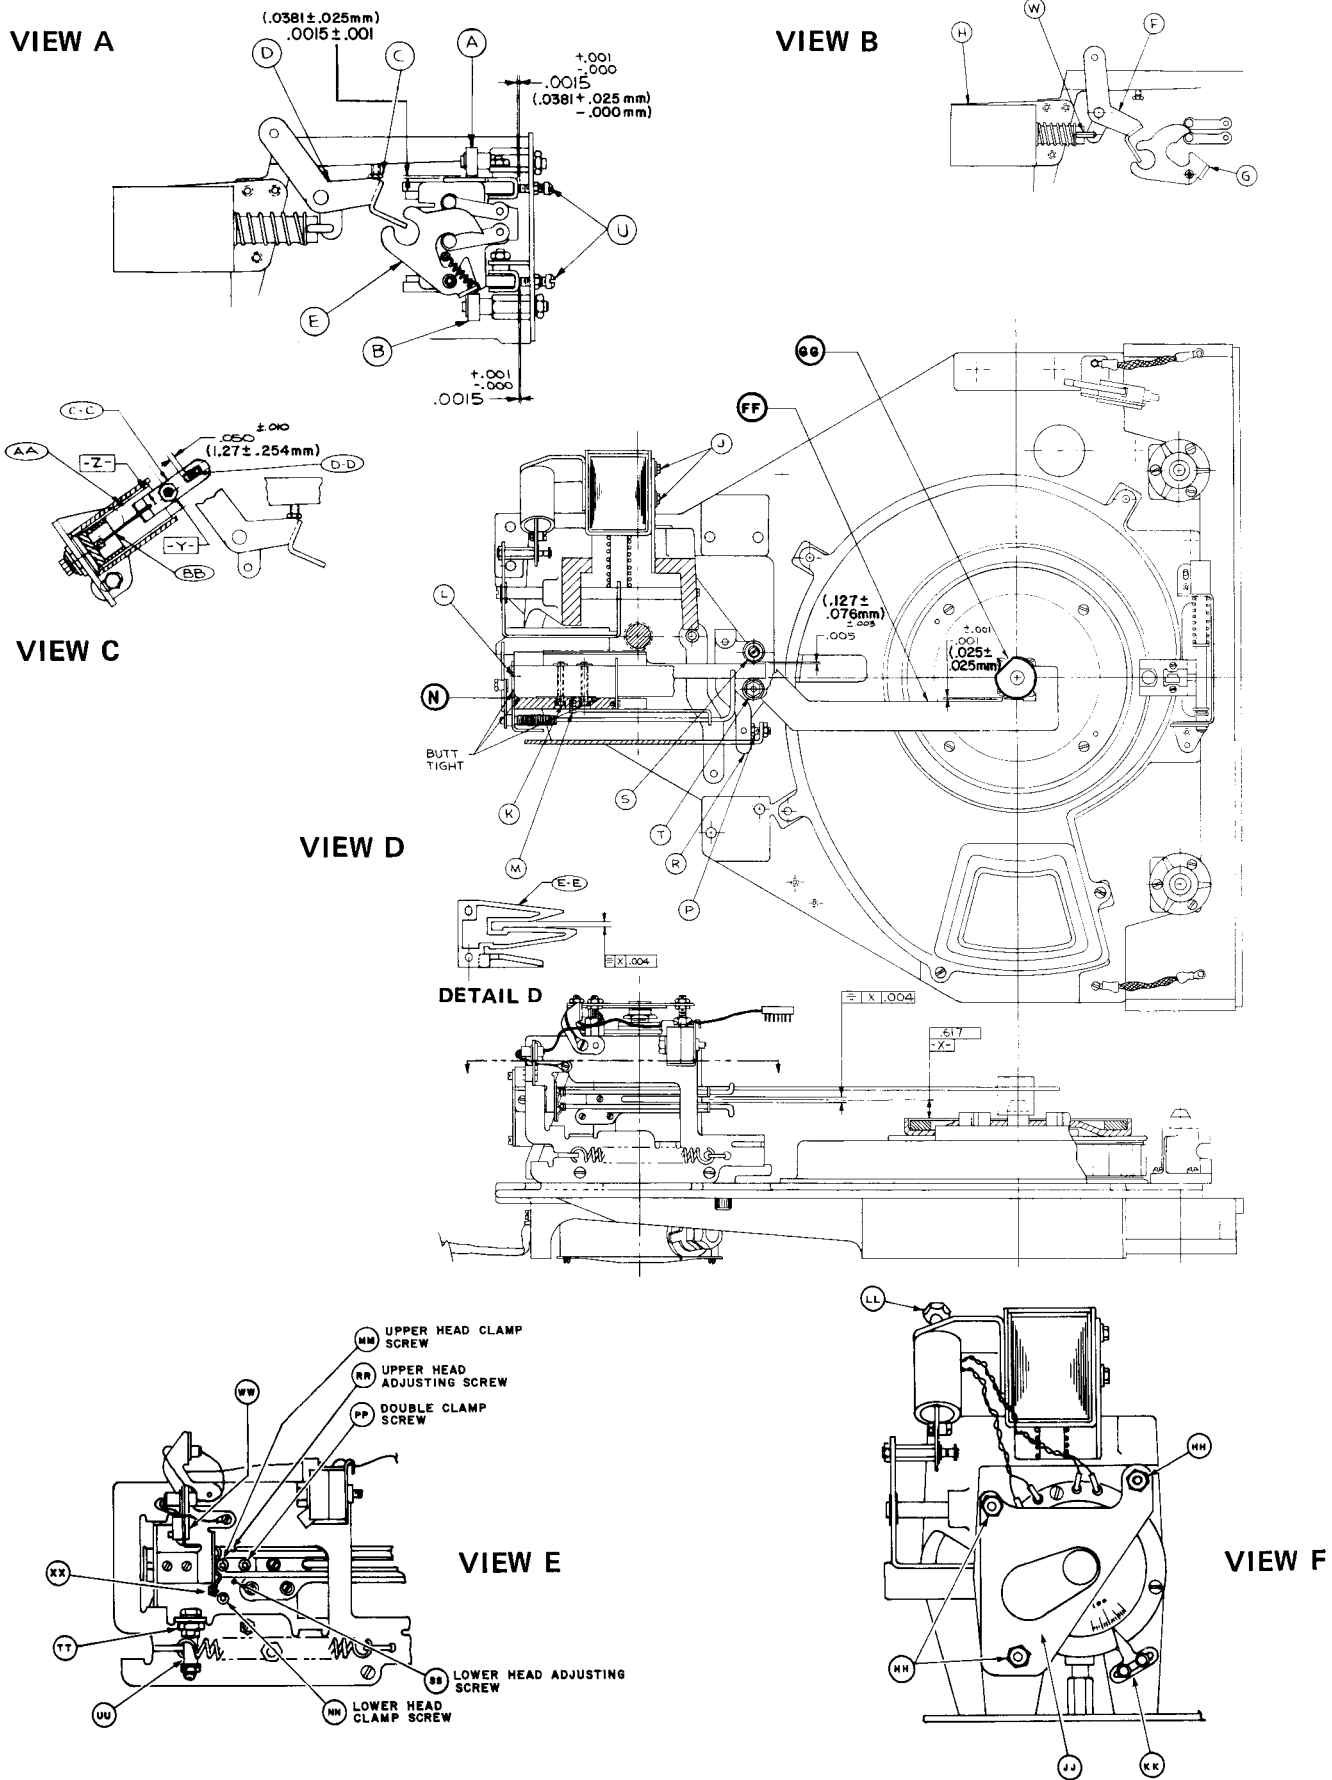
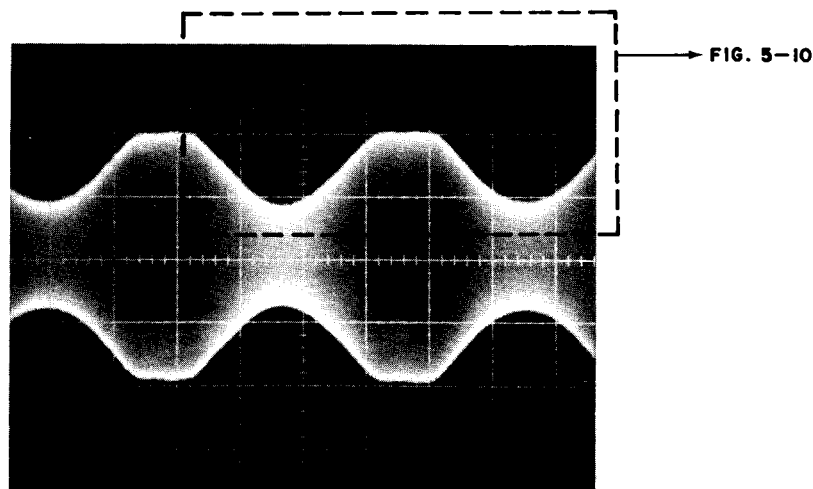
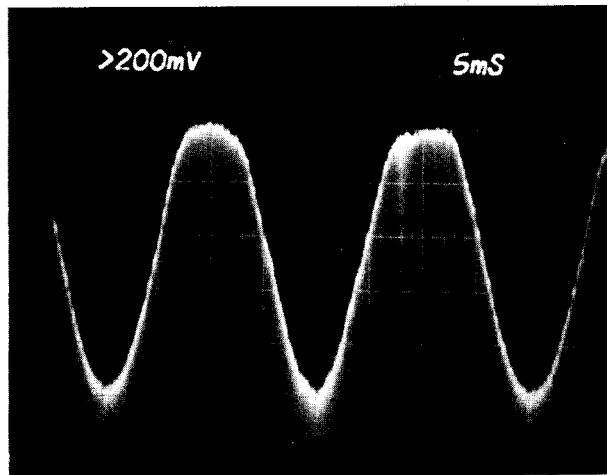

Figure 5-7 HEAD POSITIONER ADJUSTMENTS
Figure 5-9 R/W HEAD ALIGNMENT CHECK WAVEFORM
Figure 5-10 R/W HEAD ALIGNMENT CHECK WAVEFORM
Refer to Figure 5-7. Note that it may be necessary to remove the Cartridge Receiver to gain access to eccentric (T) for the adjustment in Step 11.
1. Refer to View A. Raise roller (A) as high as possible.
2. Adjust carriage height to the dimension shown, by adjusting eccentric (B). Retighten its holding nut.
3. Adjust eccentric (A) to dimension shown. Retighten its nut.
4. Adjust screw (C) so that bail (D) is centered in cam (E) as shown.
5. Refer to View B. Loosen mounting screws holding solenoid (H). Adjust solenoid (H) so that bail (F) is centered in cam (G) as shown. Retighten solenoid mounting screws, keeping solenoid (H) and link (W) horizontal.
6. Loosen screw (M) so that its tip will not interfere with bar tool (FF) in the next step.
7. Refer to View D. Remove the upper head. Install bar tool (FF) in its place, so that it is tight against end plate (L) and carriage surface (N). Tighten the head clamp screws to 50 ± 5 inch-ounces (tightening to a higher torque will damage the head clamps). Install cone tool (GG). Rotate tool (GG) so that only round surfaces are presented to tool (FF). Move the carriage back against its rear stop.
8. Adjust the carriage stop eccentric (TT, View E) until bar tool (FF) just touches cone tool (GG).
3. A 15 volt p-p sine wave should be seen on the oscilloscope. If not, loosen upper nuts (HH) (Figure 5-7, View F) and rotate the transformer mounting plate until a signal of 15 ± 1 volts p-p is observed. Retighten the nuts.
4. Switch the drive between LOAD and RUN several times. The trace should swing an arc of $135 \pm 40^\circ$ from Position 1 in a counterclockwise direction toward Position 2. If it does not fall within this range, adjust eccentrics (TT) and (UU) (Figure 5-7, View E), so that it does.
2. Monitor the signal at TP2 of PCB J10 to observe the signal shown in Figure 5-9. Then set scope Ch1 to 200 mV/Div and readjust the scope for the pattern shown in Figure 5-10. The signal from the lower head will normally be selected and its output seen at TP2. The signal from the upper head may be selected for observation at TP2 by replugging the R/W head cable connector so that the top row of pins on the plug are inserted into the bottom row of socket terminals on the J10 PCB. This leaves the bottom row of plug pins and the top row of socket terminals disconnected. Both heads should be checked.
3. The signal from a correctly aligned head will appear as shown in Figure 5-10. Adjustment is required if successive dips differ by more than 60%. Figure 5-12A shows a 40% misadjustment and Figure 5-12B shows 80% misadjustment using the Diablo Alignment Cartridge or the IBM C.E. Pack with hub shim. If the waveform is not within the specified acceptable range, perform the Alignment Procedure (subsection 5.5.4.5.2).
3. When a R/W Head is in its rearmost position, the head will be about 5 cylinders too far back. A head is adjusted by inserting a set screw (part of torque wrench set #99001) in the proper threaded screw hole (see Figure 5-7, View E), and turning it in against a diagonal surface on the edge of the head support arm. This will move the head assembly toward the spindle *only*. If the head is moved too far, the screw must be removed, the head clamps loosened, and the head moved rearward to begin again. As the head is moved toward the spindle by the set screw, it will approach the pre-recorded alignment track (track 100 or 105 as described earlier). Standard Density machines read track 100 with the erase coils, while High Density machines read track 105 with the read/write coils. The head is correctly adjusted when an equal portion of the eccentrically recorded track is read by each half of the winding. Figures 5-9, 5-10 and 5-11 all depict 0% error in head adjustment.
5. Following adjustment, the head clamps must be tightened. Refer to Figure 5-7, View E. A torque of 50 inch-ounces must be applied to the double (common) head clamp (PP), and a torque of 26 inch-ounces must be applied to single head clamp (MM) and/or (NN).
1. Refer to Figure 5-7, View E. Raise the Electronics Frame into the service position to gain access to the rear of the Head Positioner through the Heat Sink, and loosen the head plug cable clamp (XX).
2. Unplug the appropriate head plug (WW). The upper head is the inner connector.
3. Loosen the double (common) head clamp screw (PP) and the desired single head clamp screw (MM) or (NN).
6. Refer to Figure 5-7, View F. Turn dashpot adjustment screw (LL) until the data signal appears 140 ± 40 milliseconds after the start of the sweep. Lock screw (LL) with a drop of adhesive when the adjustment is completed.